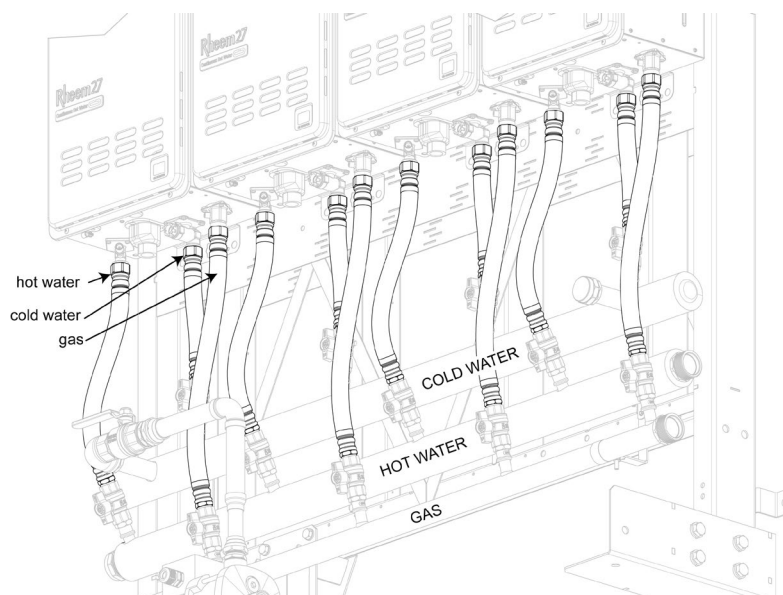

Figure 12
- Reinstall the water and gas manifolds paying attention to their location. Refer to **Figure 12**.
17. Connect the flexible hose connectors to the CFWH units. Ensure all connections into the CFWH units are correct i.e. gas to gas (yellow handle), cold to cold (green handle) and hot to hot (red handle). Do not allow for any flexible connection hoses to be kinked or restrict water or gas flow in any way. Refer to **Figure 12**.